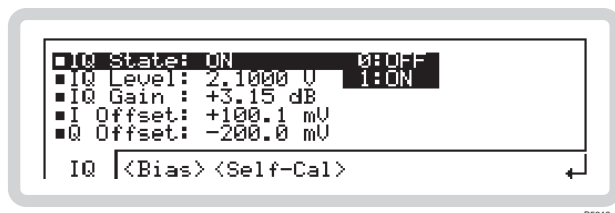
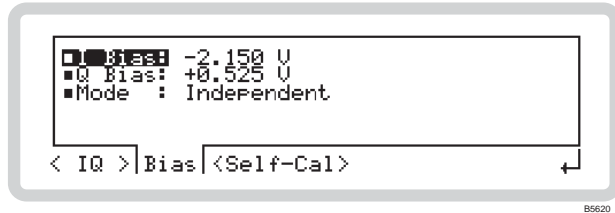

Fig. 3-58 Differential IQ
Fig. 3-59 Bias setup, differential IQ
- 2 Press **SIG GEN** to show the main screen, and touch the **Diff IQ** soft box to select the function. Touch **IQ** and press **↵** to view the differential IQ screen (Fig. 3-58).
From the differential IQ menu of Fig. 3-58, touch <Bias> or press **<TAB>** to display the bias setup screen (Fig. 3-59).
From the differential IQ menu of Fig. 3-58, touch <Self-Cal> or press `<TAB>` to display the self-calibration screen (Fig. 3-60).